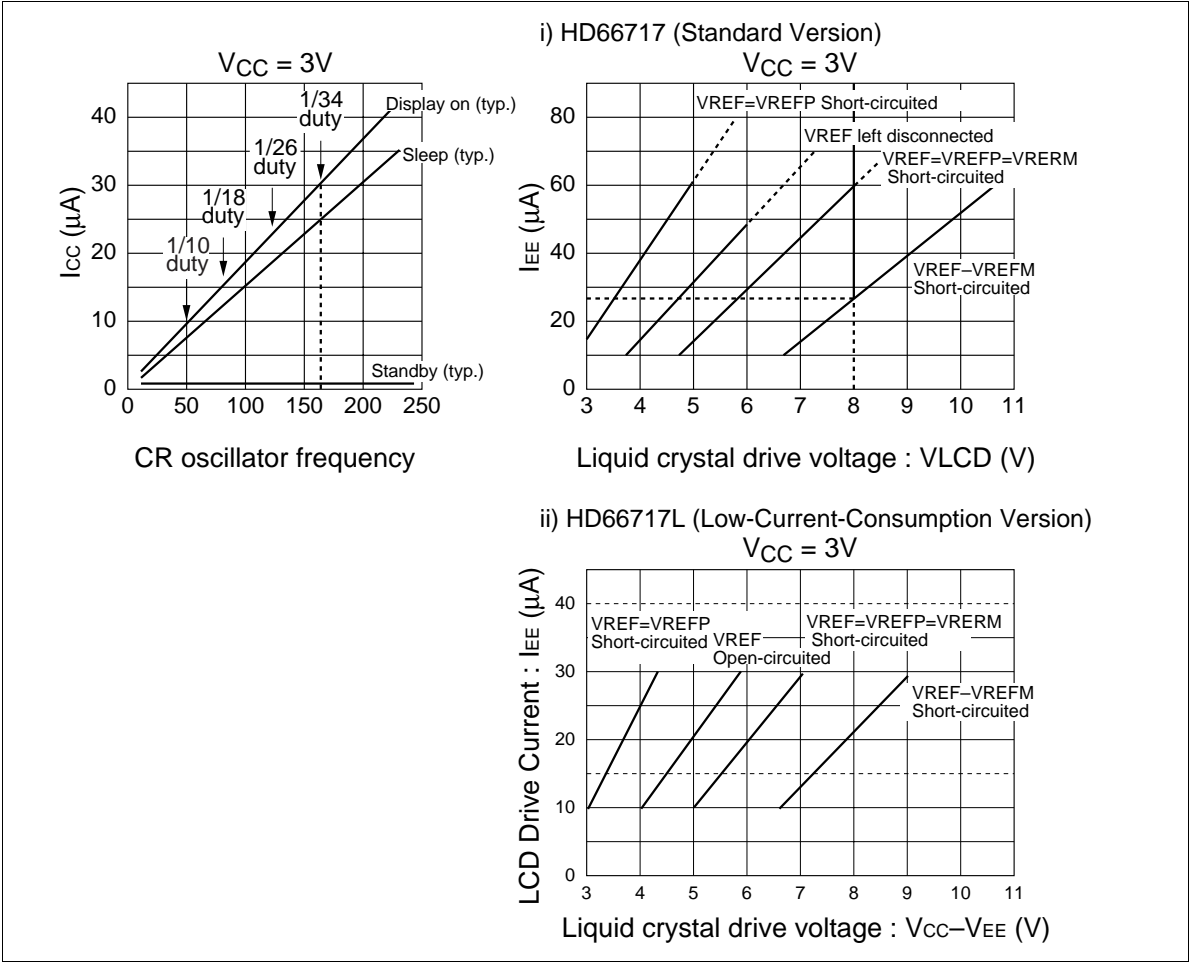

Figure 47 Relationship between the Operation Frequency and Current Consumption
- 11. The following shows the relationship between the operation frequency (f_{OSC}) and current consumption (I_{CC}) (Figure 47). The HD66717 is a normal current-consumption version, and the HD66717L is a low current-consumption version in the LCD power supply.